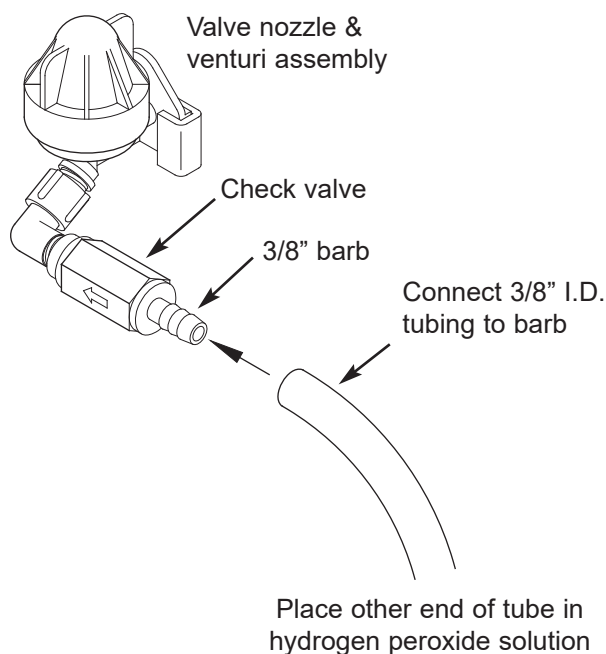

FIG. 15
3. Connect a length of 3/8 I.D. tubing to the barb on the aspirator check valve (See Figure 15).
5. **Start a recharge:** From the rolling status screens, press the SELECT (O) button to display the **Main menu**. Make sure **Recharge** is highlighted, then press SELECT (O). Press DOWN (▼) to scroll to **Recharge now**, then press SELECT (O) twice. You should hear the valve motor run as the filter begins recharging. The filter will backwash for 15-17 minutes, then advance automatically to the "aspirate" position. It will draw the hydrogen peroxide into the filter and pass it through the zeolite media, cleaning and sanitizing the media.